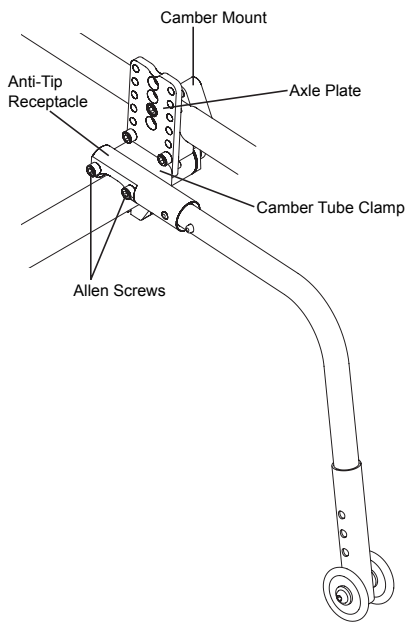

Figure 126
3. Align the two holes in the anti-tip receptacle with the two holes in the camber tube clamp and with the anti-tip receptacle positioned over the camber tube and facing rearward. See Figure 126.